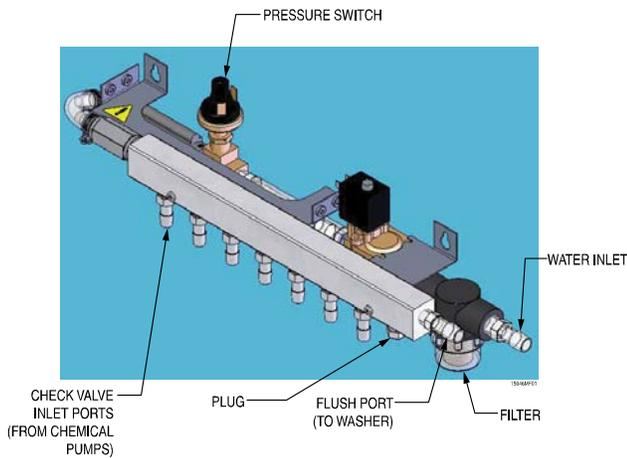

Figure XL1. XL Flush Manifold (1204845)
XL flush manifolds come with wall-mount keyholes in the manifold bracket. The manifold should always be mounted with the check valve inlet ports facing down as shown in Figure XL1.
1. Connect the water inlet tubing to the manifold (see Figure XL1).